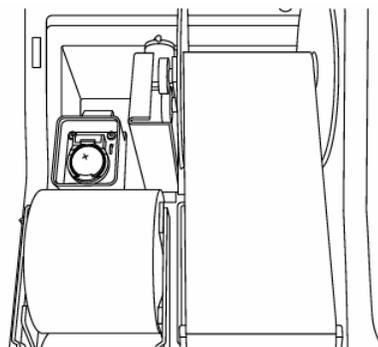

Fig.10
5. Put the new battery in the same position (See Fig. 10)